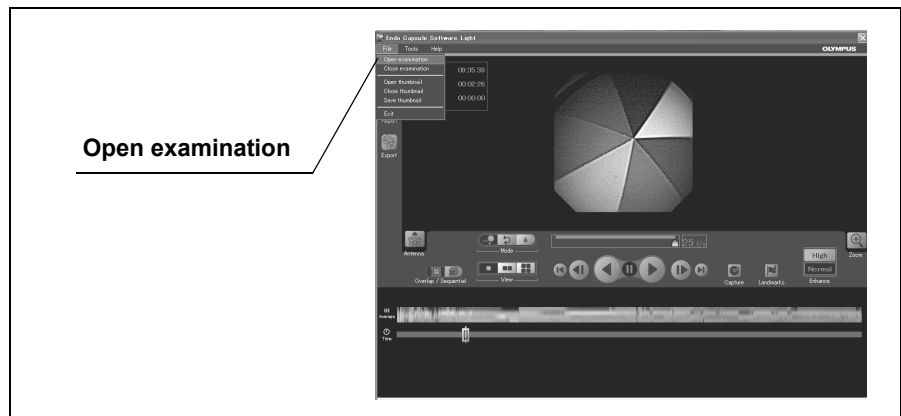

Figure 6.9
1. Select “Open examination” from the “File” menu on the main screen (see Figure 6.9). The file open screen is displayed.